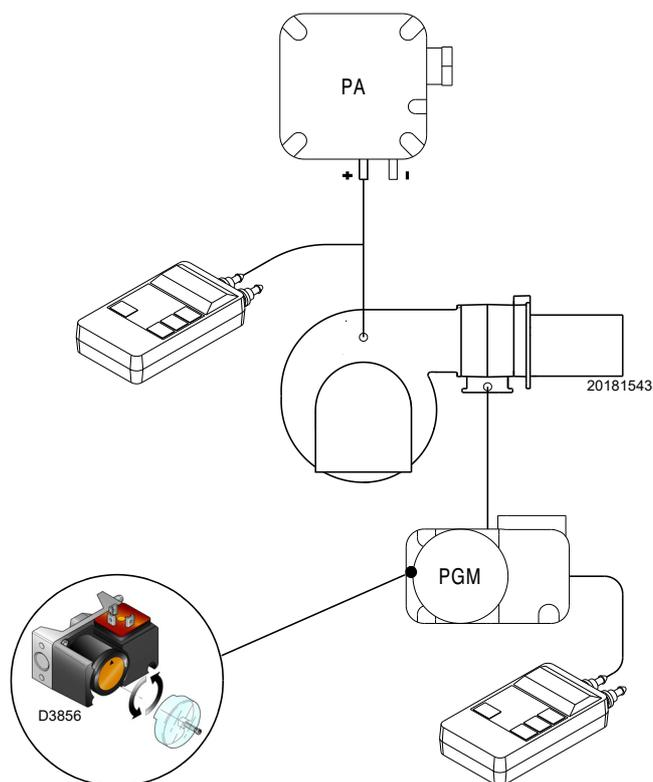

Fig. 33
- Adjust the maximum gas pressure switch (Fig. 33 at page 34) to the end of the scale.
Adjust the maximum gas pressure switch (Fig. 33) after making all other burner adjustments with the maximum gas pressure switch set to the end of the scale.